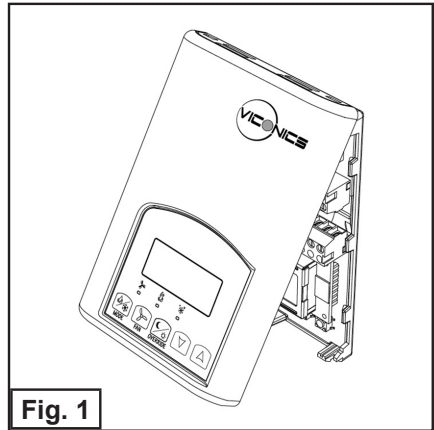

Fig. 1
- Open unit by pulling on bottom side of Room Controller (Fig. 1).